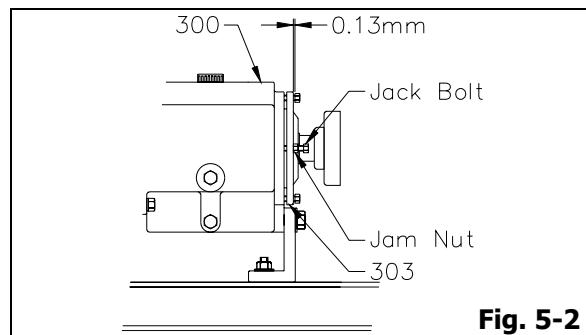

Fig. 5-2
1. Loosen two (2) jam nuts on two (2) jack bolts and back bolts out about two turns.
2. Tighten four (4) adjustable bearing box bolts evenly, drawing the adjustable bearing box (303) towards bearing frame (300) until impeller (120) touches the casing wear plate (104). Turn pump coupling by hand to ensure contact is made.
3. Using a feeler gauge, set the gap between four (4) adjustable bearing box bolts and adjustable bearing box (303) evenly to 0.13mm (Fig. 5-2).